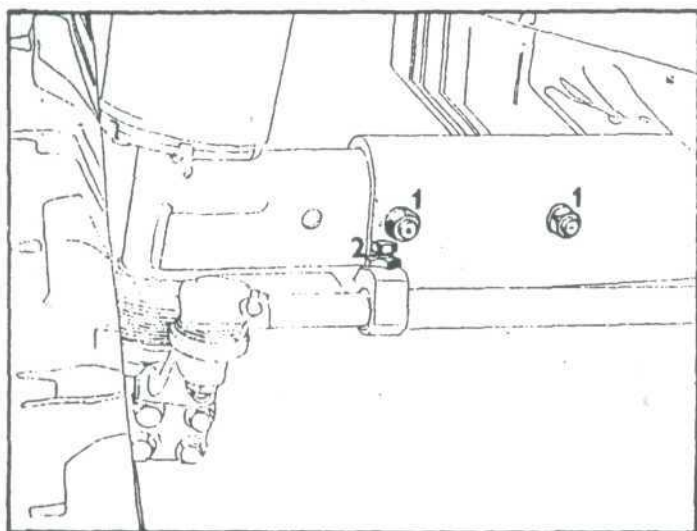

Fig. 20
2. Unscrew two nuts (Fig. 20/1) of front axle extension bolts and pull them out.
3. Unscrew two bolts from the RH and LH interconnecting rod of the steering system and pull them out (Fig. 20/2).